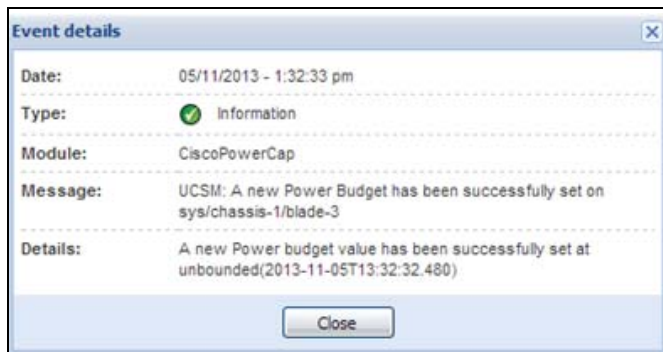

Figure 224. New Power Budget Successful
- A new power budget has been successfully set by the server (see Figure 224).